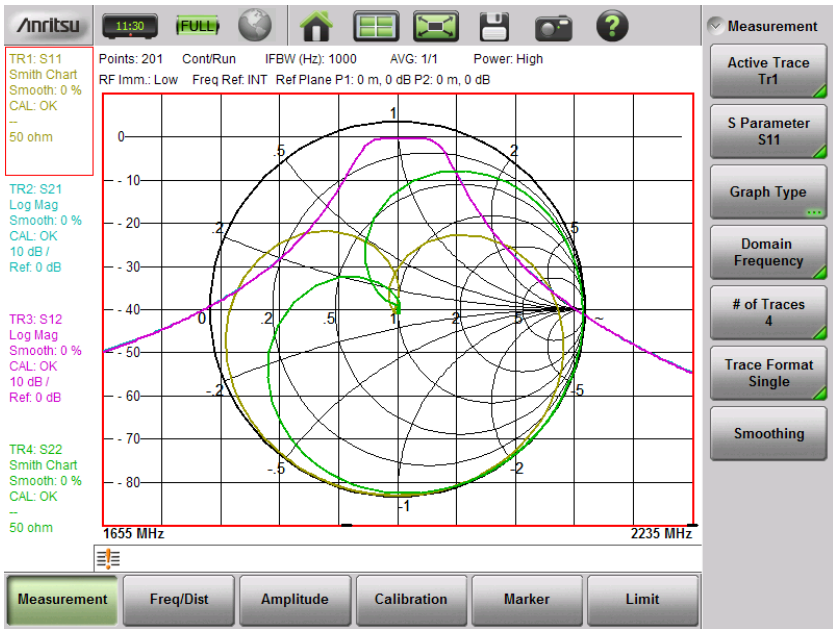

Figure 6-4. Format = Single, Traces = 4
- Beginning with the default view, set Trace Format = Single, with Number of Traces = 4. Notice how all 4 traces are overlaid on a single graph. Refer to Figure 6-4.